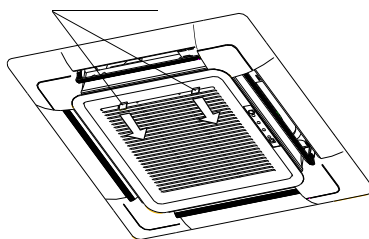
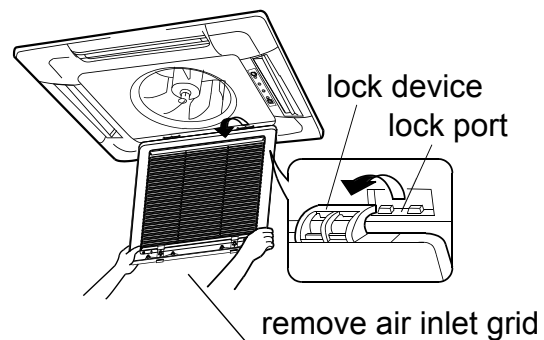

Fig. 1
Fig. 2
1. Remove the air inlet grid as shown in the figure: press down the two locks on the grid (as shown in Fig. 1) to move it close to the nearby grid, gently lift it 45 degree (as shown in Fig. 2), and then remove the air inlet grid.